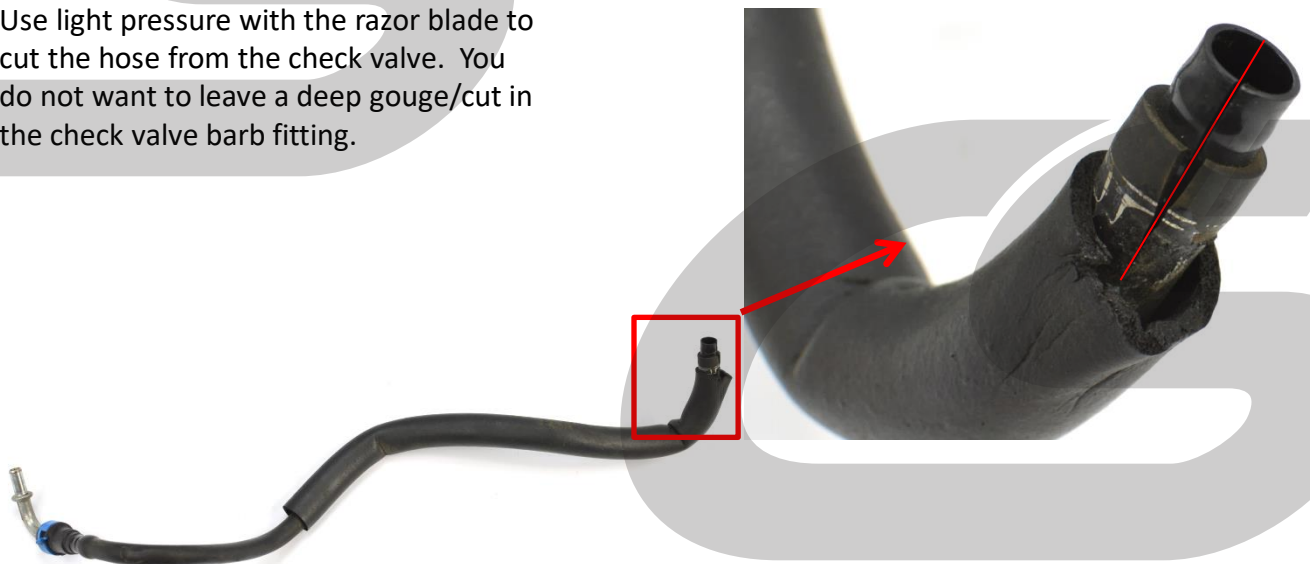

Figure 6b
- c) Completely remove EVAP hose with blue tab that was disconnected earlier. Trace the hose to black/white check valve. Then use a razorblade to cut the hose like shown with red line in Figure 6b. The hose should be free to remove. Upon removal it should look like the hose in Figure 6b.